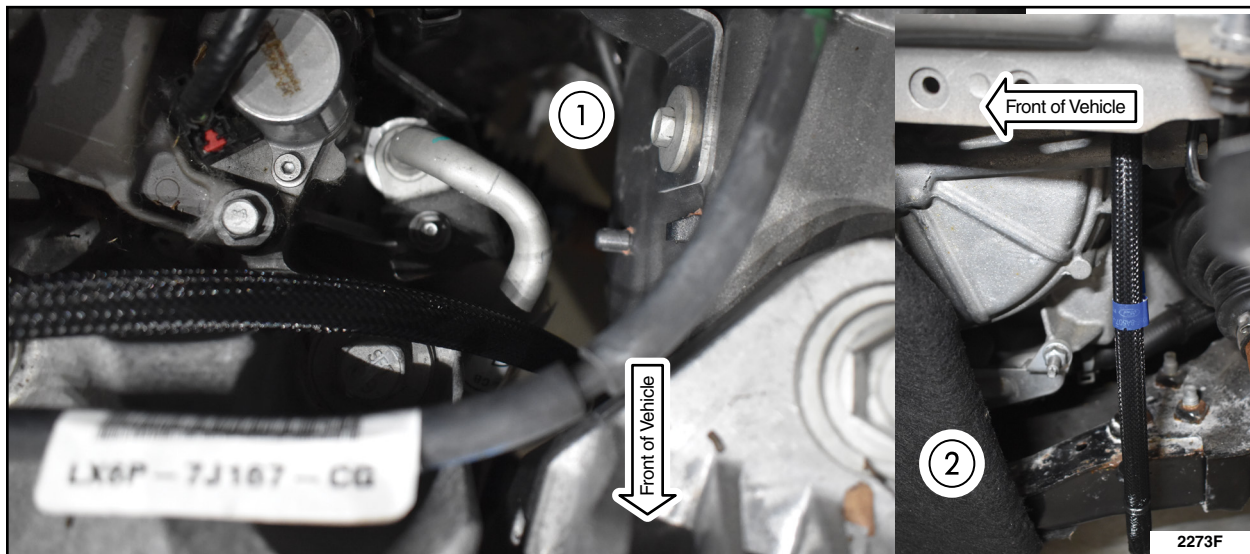

FIGURE 9
12. Feed the rubber hose end through the engine compartment and down into the wheel well. See Figure 9.